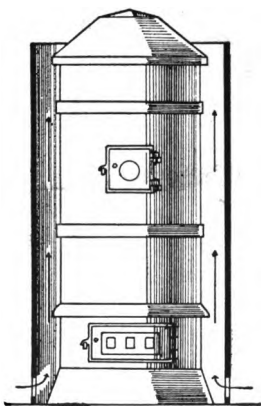

FIG. 47.—JACKETED STOVE
32. Why does an iron jacket placed three-quarters around a parlor stove (Fig. 47) make the stove heat the room better?